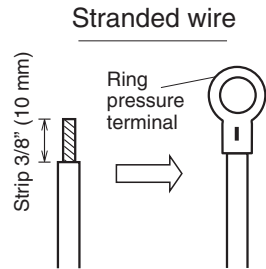

Fig. 4-6
- (1) Cut the wire end with cutting pliers, then strip the insulation to expose the stranded wiring approx. 3/8" (10 mm) and tightly twist the wire ends. (Fig. 4-6)
- (2) Using a Phillips head screwdriver, remove the terminal screw(s) on the terminal board.
- (3) Using a ring connector fastener or pliers, securely clamp each stripped wire end with a ring pressure terminal.